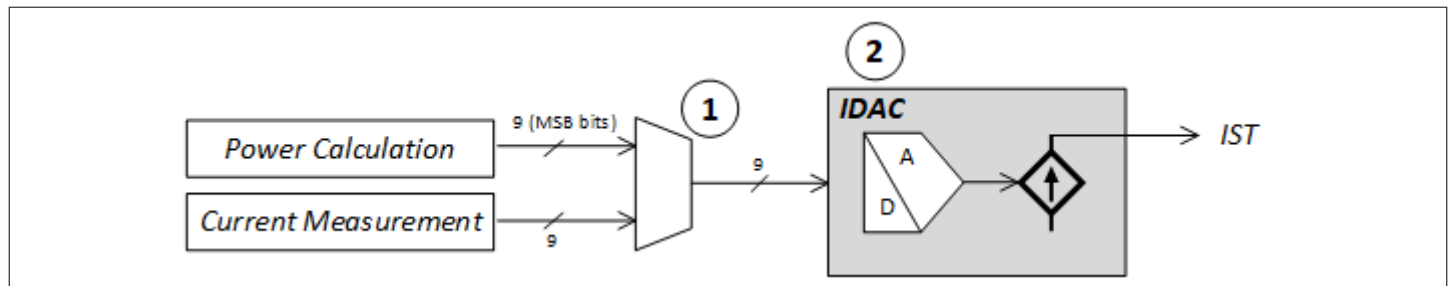

Figure 10 AMON generation
As shown in Figure 10, information is taken from IOUT data path and PIN data output, which goes into a digital multiplexer (1), configurable by means of TELEMETRY_CFG PMBus command. Output of the multiplexer then goes to an IDAC (2), which outputs a current level proportional to the corresponding current or power digital input at the IST pin.